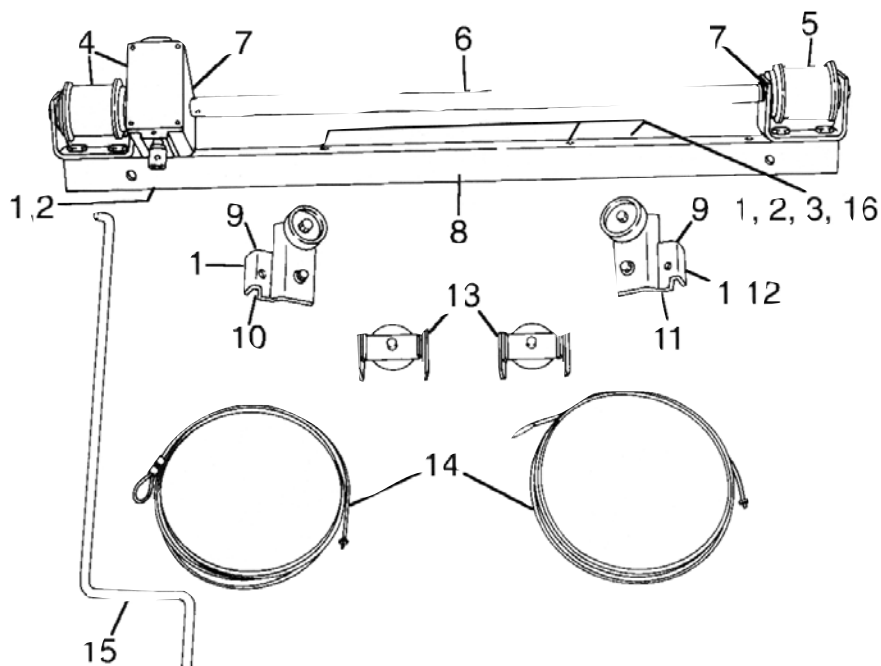
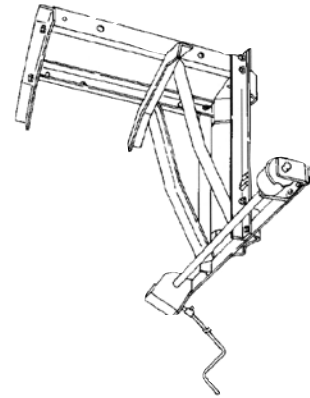

Figure 3. Exploded view and parts list for KA146W2 tank-lifting windlass.
Figure 4. KA146W2 tank-lifting windlass installed on a hanger.
The windlass simplifies lowering the recloser tank for inspection and maintenance, but can not be used for lowering the entire recloser. Refer to the exploded view and parts list (see Figure 3) during assembly and installation of the tank-lifting windlass. The final assembly is diagrammed in Figure 4.
1. The gear box and spool (4), spool assembly (5), pipe (6), and roll pins (7) may already be assembled to the support angle (8). If not, assemble as shown in Figure 3. Use two 1-inch bolts (1) and lockwashers (2) to fasten the gear box to the support angle. The spool assembly includes hardware.
2. Attach support angle (8) to bottom back portion of vertical angles on KA146W5 frame with 1/2-13 x 1-1/2 inch bolts (16), lockwashers (2), and nuts (3).
3. Using 1-inch bolts (1) and flat washers (9), attach the upper sheave brackets (10 and 11) to the head casting flange at the tapped hole on each end of the recloser. The flat washer should be placed under the sheave bracket between the bracket and the head casting flange.